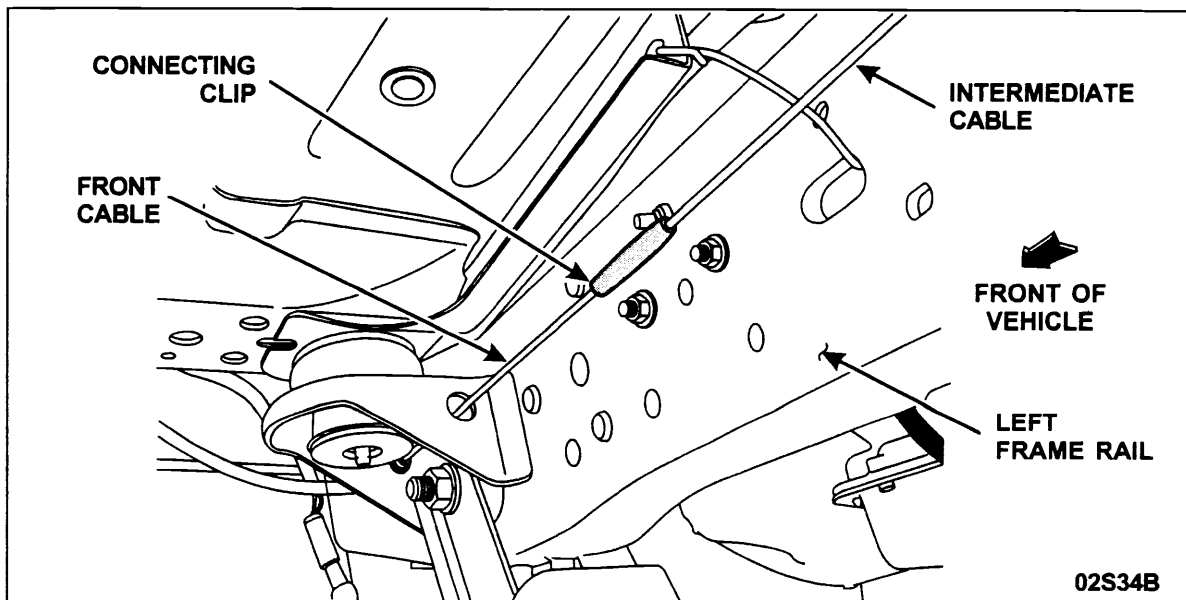

FIGURE 2
6. Disconnect the intermediate cable from the front cable at the connecting clip and discard the connecting clip. See Figure 2.